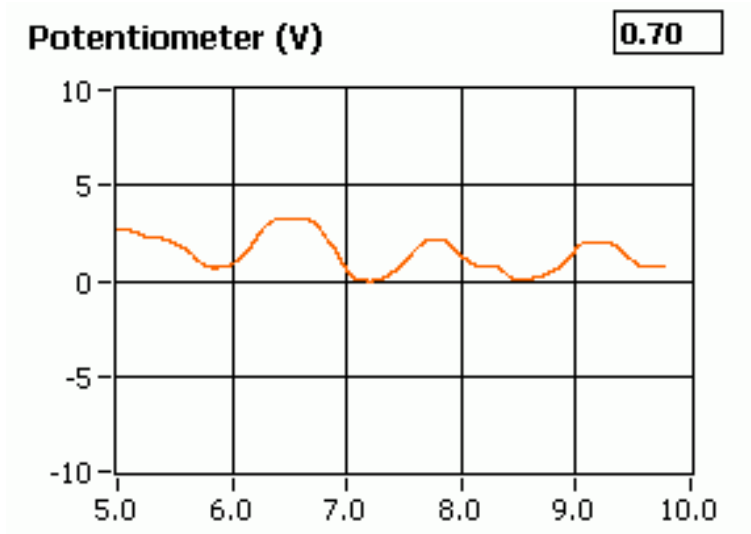

Figure 7.15: Sample saved response
3. The resulting image that is saved is shown in Figure 7.15.